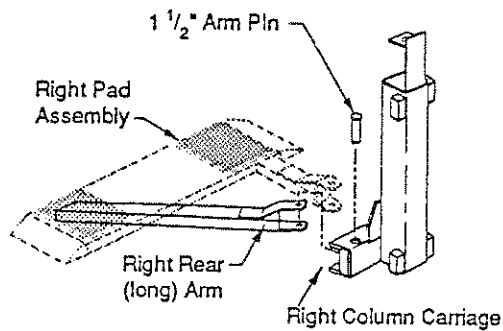
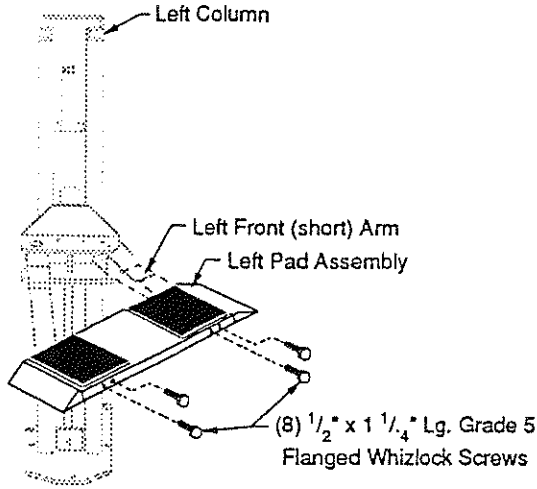

Fig. 15
Fig. 16
**15. Superstructure:** Raise carriage to a convenient height. Grease swivel arm pins and holes with Lithium grease. Install Arms, per Fig. 15, using 1 1/2 diameter arm pins. Assemble pad assemblies by aligning arms with slot openings on sides of pads. Slide arms into pads until arms contact the side wall of the pad opposite of the opening. The ends of the arms should be parallel with the inside edge of the pad. Assemble pads to arms using (8) 1/2" x 13 NC x 1 1/4" Lg. Grade 5 Flanged Whizlock Screws, Fig. 16. Torque screws to 30-35 Ft.Lbs.
**Note:** Right side shown Fig. 15, left hand side pad assembled just opposite.
Note: Left side parts shown Fig. 16, right pad parts are assembled just opposite.